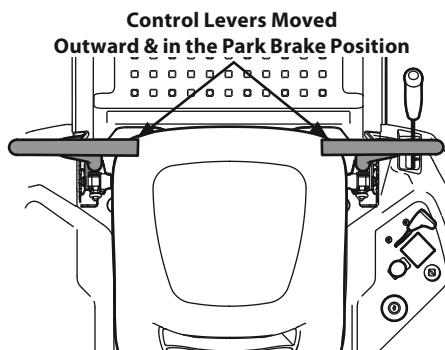

Figure 23
1. Operator should be sitting in the tractor seat with the lapbar drive control levers fully out and in the park position. See Figure 23. Refer to Practice Operation for further instructions.